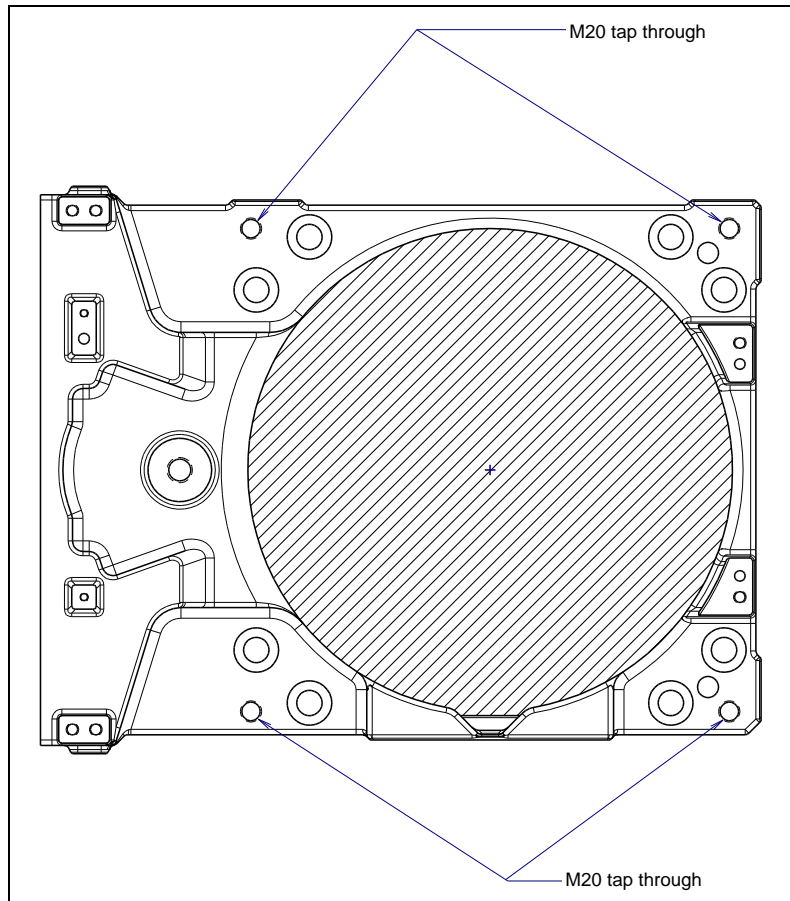

Fig. 1.1 (a) Position of the transport equipment mounting
- (1) Transportation using a crane (Fig. 1.1 (b))